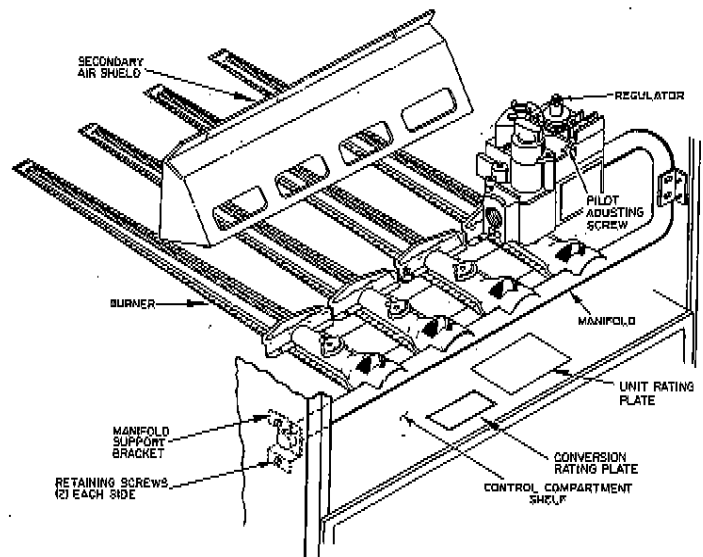

Fig. 1—Gas Controls
(See Fig. 1.)
8. Attach rating plate Part No. 310168-322 near existing rating plate. (See Fig. 1.)